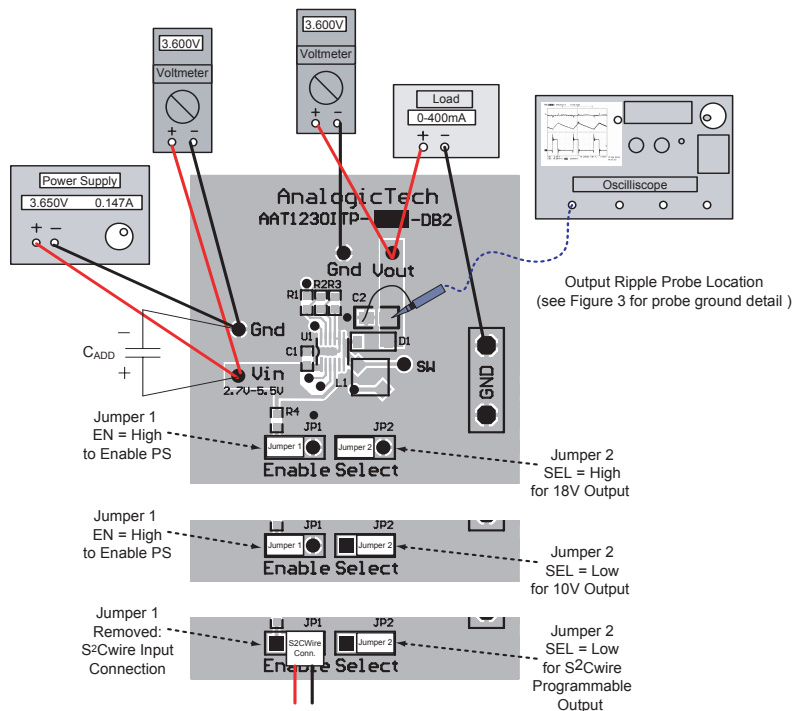
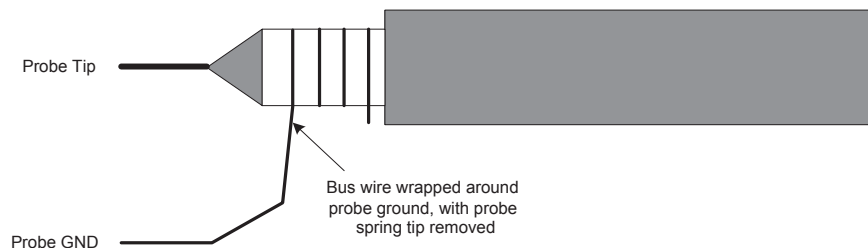

Figure 2: AAT1230 Evaluation Board Connection Diagram and JP1, JP2 Settings.
Figure 3: Oscilloscope Probe Set-Up for Output Ripple Measurement.
1. Configure the specified test equipment, as shown in Figure 2. JP1, JP2, and S²Cwire options are shown.
3. Input power supply with remote sense is optional (not shown in Figure 2). This simplifies the test procedure and maintains high accuracy of the input voltage across the load range. Connect remote sense from input power source remote sense terminals to VIN and GND terminals on the UUT.
1. Enable the UUT jumper JP1 to the ON position. Select JP2 position based on desired DC output voltage (10V or 18V), as shown in Figure 2.
1. Configure oscilloscope CH1 for output ripple measurement. Plug probe into CH1, as shown in Figure 2.
4. To minimize high frequency noise pick-up due to PCB parasitics and guarantee consistent results, CH1 output ripple should be measured directly across output capacitor C2, as shown in Figure 2. Probe tip contacting capacitor positive terminal. Probe ground consisting of a small bus wire wrapped around probe ground (see Figure 3). Probe GND contacting capacitor C2 return conductor for best results.